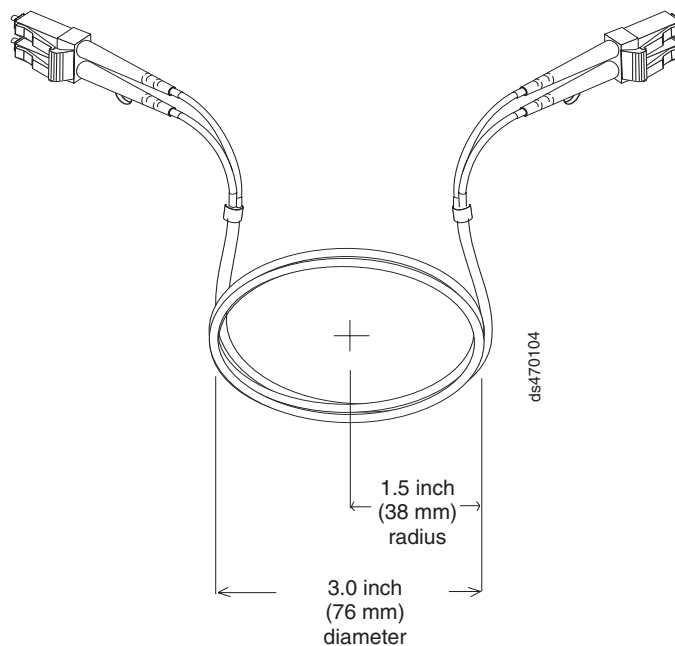

Figure 27. Recommended bending and looping specifications for fibre-optic cables
- When storing excess or unused fibre-optic cables, do not bend the cables to a diameter of less than 76 mm (3 in.), or a radius less than 38 mm (1.5 in.) or wrap them around themselves. See Figure 27.